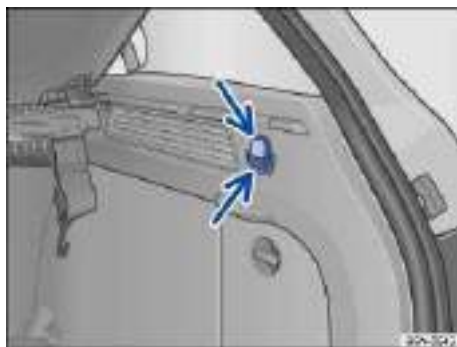

Fig. 103 In the luggage compartment: Shopping bag hooks.
- Press at the bottom to fold out the shopping bag hook ⇒ fig. 103.